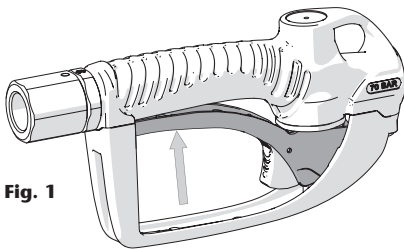

Fig. 1
1. Pull the trigger to its maximum opening (fig. 1).